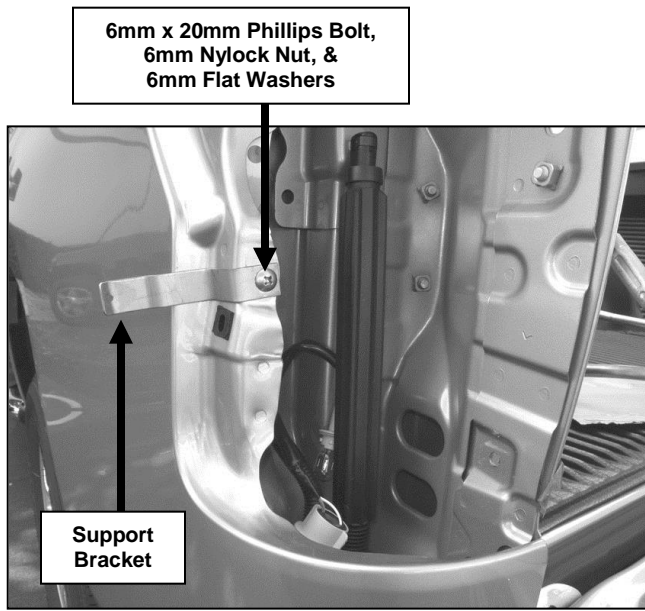

Figure 1
5. Mount (1) Support Bracket onto factory hole on the vehicle using (1) 6mm x 20mm Phillips Bolt, (1) 6mm Nylock Nut, and (2) 6mm Flat Washer (Figure 1). Tighten at this time.